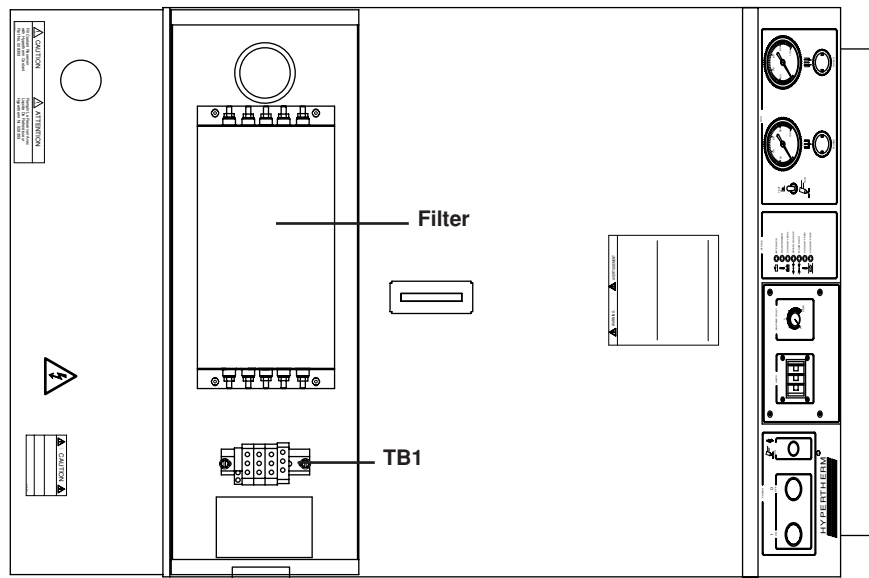

Figure d-2 MAX200 Power Supply with EMI Filter Cover Off – Top View
2. Unscrew the four filter cover screws and remove cover to access input voltage connections at TB1 (see Figure d-2).